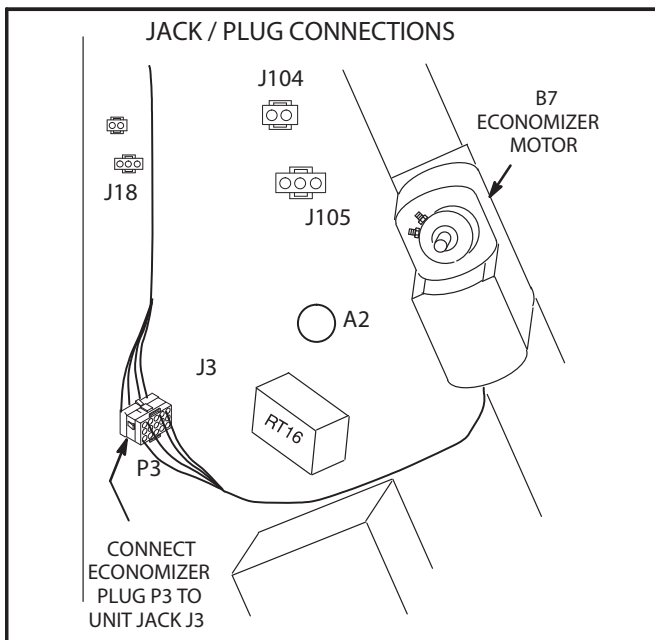

FIGURE 2
- 5– Connect economizer plug P3 to unit jack J3 as shown in figure 2.